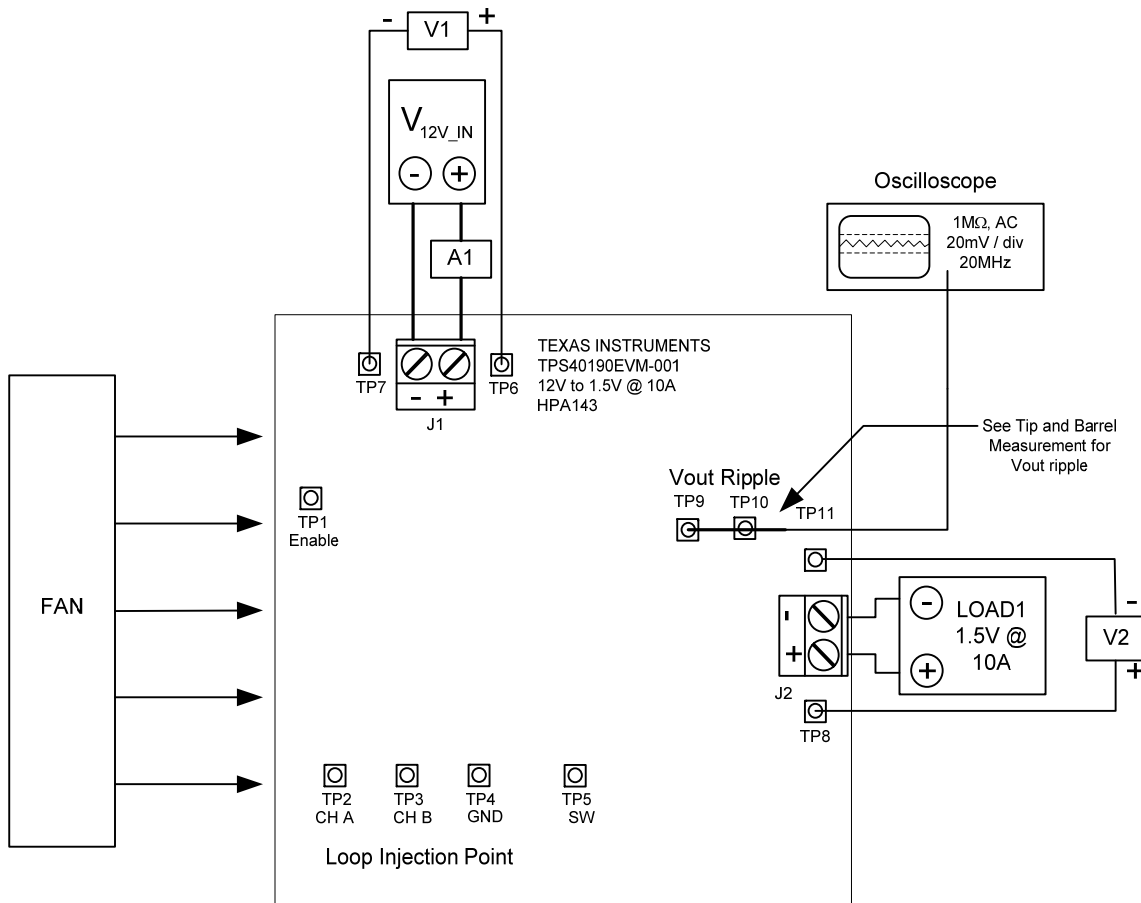
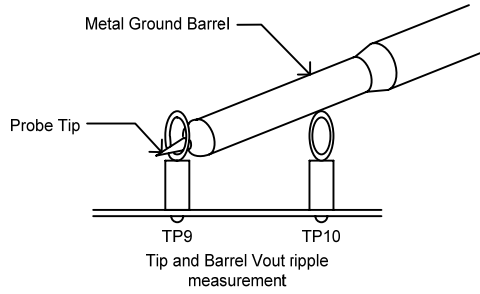

Figure 2: TPS40190EVM-001 Recommended Test Set-Up
Figure 3: Output Ripple Measurement - Tip & Barrel using TP9 and TP10
The input voltage source (V_{12V_IN}) should be a 0-15V variable DC source capable of 5A_{dc}. Connect V_{12V_IN} to J1 as shown in Figure 3.
A Digital or Analog Oscilloscope can be used to measure the ripple voltage on V_{OUT} . The Oscilloscope should be set for 1M Ω impedance, 20MHz Bandwidth, AC coupling, 1 μ s/division horizontal resolution, 20mV/division vertical resolution for taking output ripple measurements. TP 9 and TP 10 can be used to measure the output ripple voltage by placing the oscilloscope probe tip through TP 9 and holding the ground barrel to TP 10 as shown in Figure 3. For a hands free approach, the loop in TP 10 can be cut and opened to cradle the probe barrel. Using a leaded ground connection may induce additional noise due to the large ground loop area.
Shown in Figure 3 is the basic test set up recommended to evaluate the TPS40190EVM-001. Please note that although the return for J1 and J2 are the same, the connections should remain separate as shown in Figure 2.
2. Prior to connecting the DC input source, V_{12V_IN} , it is advisable to limit the source current from V_{12V_IN} to 5.0A maximum. Make sure V_{12V_IN} is initially set to 0V and connected as shown in Figure 2.
3. Connect the ammeter A1 (0-5A range) between V_{12V_IN} and J1 as shown in Figure 2.
4. Connect voltmeter V1 to TP6 and TP7 as shown in Figure 2.
5. Connect LOAD1 to J2 as shown in Figure 2. Set LOAD1 to constant current mode to sink 0A dc before V_{12V_IN} is applied.
6. Connect voltmeter, V2 across TP8 and TP11 as shown in Figure 2.
7. Connect Oscilloscope probe to TP9 and TP10 as shown in Figure 3.
8. Place Fan as shown in Figure 2 and turn on, making sure air is flowing across the EVM.